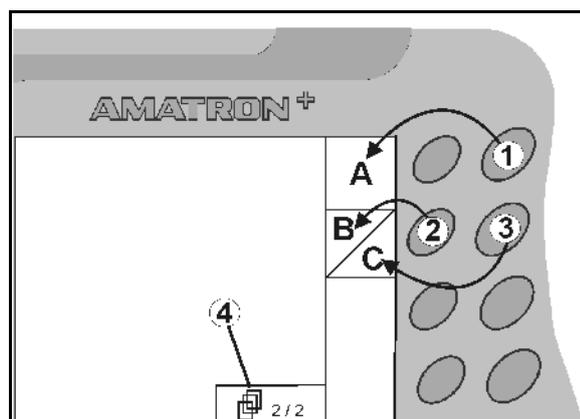

Fig. 8
- If boxes appear on the display, only the right key (Fig. 8/1) is assigned to the function field (Fig. 8/A).
- the left key (Fig. 8/2) is assigned to the top left function field (Fig. 8/B).
- the right key (Fig. 8/3) is assigned to the bottom right function field (Fig. 8/C).
<ul style="list-style-type: none"> • Scroll to other menu pages (only possible if (Fig. 8/4) appears in display) • Help menu only accessible from the main menu (see page 17).